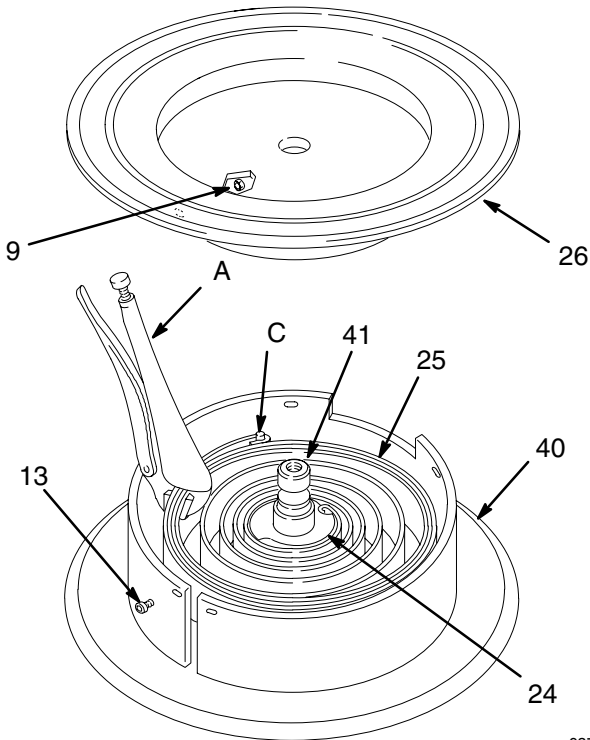

Fig. 19
Use extreme caution when handling the spring. The spring (25), which is located behind the flange (26), is always under great tension and could be propelled from the lower flange with enough force to cause serious injury. Refer to Fig. 19.
13. Remove the screws (13), nuts (9), and retaining ring (28) from the reel flanges (26 and 40). See Fig. 19 on page 19 and the **Parts Drawing** on page 21.
14. Lay the reel flat. With extreme caution, lift up on the flange (26) to expose the spring (25).
If either end of the spring (25) is worn or damaged and does not hook properly on the reel hub (24) or the pin (C), the spring needs to be replaced. See Fig. 19. If the pin itself is broken, the lower reel flange (40) must be replaced.
16. *To remove the spring,* use locking pliers (A) placed near the end of the spring, as shown, to compress several rows of the spring (25) together, and lift out the spring. See Fig. 19.
18. *When greasing and installing the new spring,* use a locking pliers (A) to compress several rows of the spring (25) together. See Fig. 19.
To ensure proper spring operation, the spring and reel hub must be installed with the inside end of the spring hooked into the reel hub (41) and the outside end of the spring hooked to the pin (C). See Fig. 19.